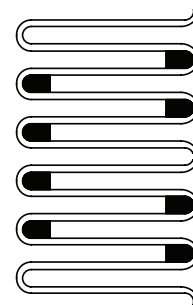

Figure 2 - Coil Spacers for sizes 1070 through 1090T
- B. **Sizes 1070 through 1090T** – Insert coil spacers in the last 4 coils of each grid half (8 spacers per grid half), as shown in Figure 2.